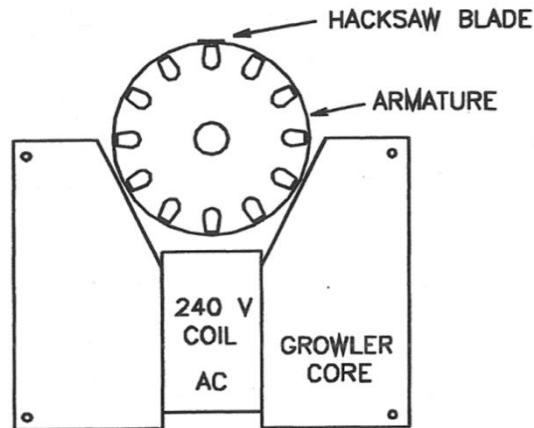

Figure 4 - Testing an armature for short circuits on a growler.
13. Short circuits can be detected by placing the armature on an external growler and placing an old hacksaw blade over each slot in turn as shown in Figure 4. If the blade vibrates it indicates that there is a short circuit in the coil in that slot. If a short circuit is indicated you should clean out the small slots between the commutator segments - in case any conducting material has lodged between them.